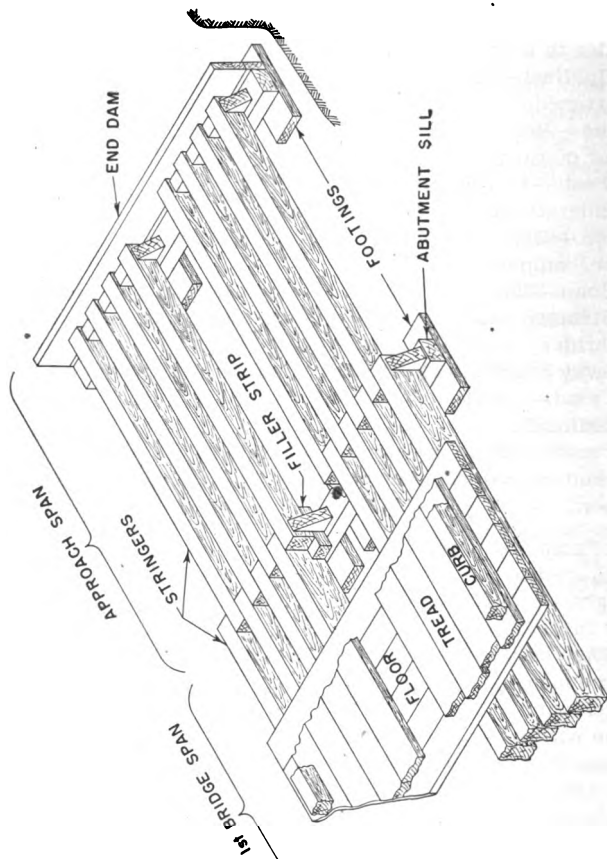

FIGURE 114.—Abutment showing approach span used for soft road-way approach.
h. End dam.—Plank at abutment of bridge, used to hold earth in place behind abutment. (See fig. 114.)
i. Footing.—Piece of wood used beneath supports to give added bearing surface on ground. (See fig. 114.)
a. *The simple stringer bridge* is usually short. It consists of three elementary parts: two abutments, a single span of stringers, and a floor. Two types of abutments are used, one for use with soft approach roadways, the other for use with firm roadways. (See fig. 114.) Every engineer soldier should know how to construct a simple stringer bridge. Trestle bridges are merely a succession of simple spans in which the trestles take the place of abutments. Timber stringers are seldom used in spans of over 15 feet or steel stringers in spans of over 25 feet.